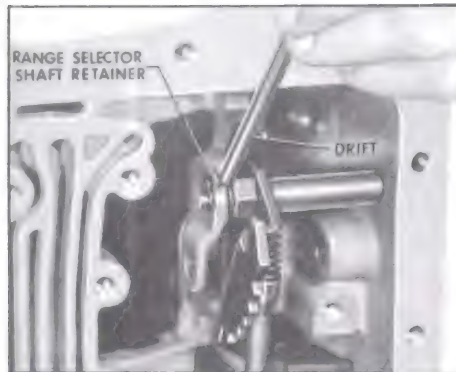

Figure 5-292
8. Install range selector shaft retainer. See Figure 5-292.